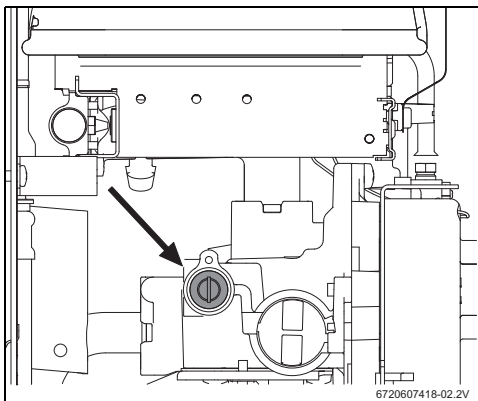

Fig. 15 Maximum gas flow adjusting screw
- Remove the seal from the adjusting screw (Fig. 15).
- Using the adjusting screw (Fig. 15), regulate the pressure until achieving the values indicated in the table 7.